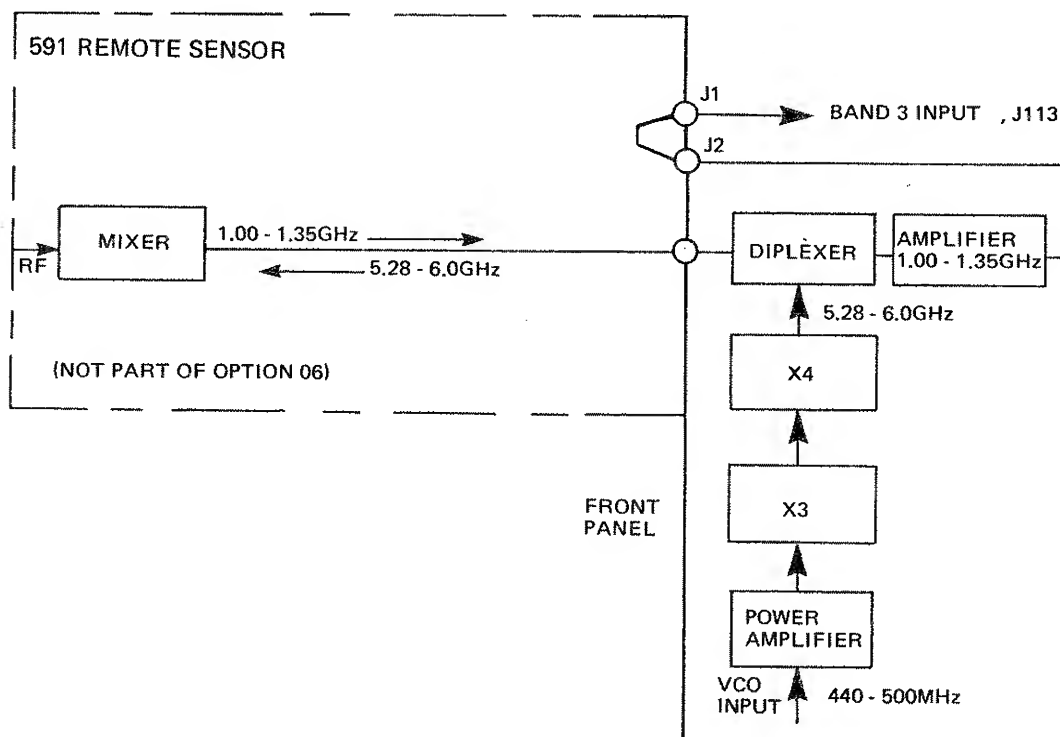

Figure 06-1. Frequency Extension Block Diagram
A multiplier chain increases the VCO output frequency to the 5.28-6 GHz range, which is referenced to the time base. See Figure 06-1. This signal provides the local oscillator (LO) power, which is transmitted to the remote sensor, an external harmonic mixer. When the input frequency and harmonics of the LO, (generated in the mixer) combine, a first IF is generated in the range of 1.00-1.35 GHz.